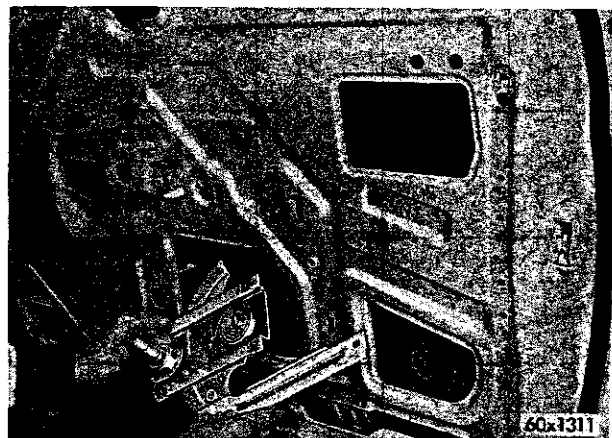
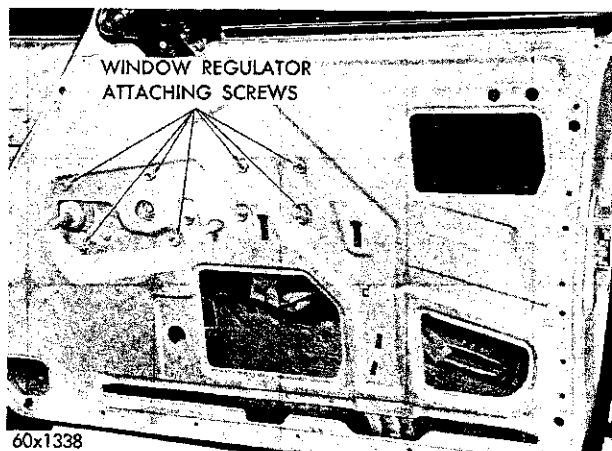
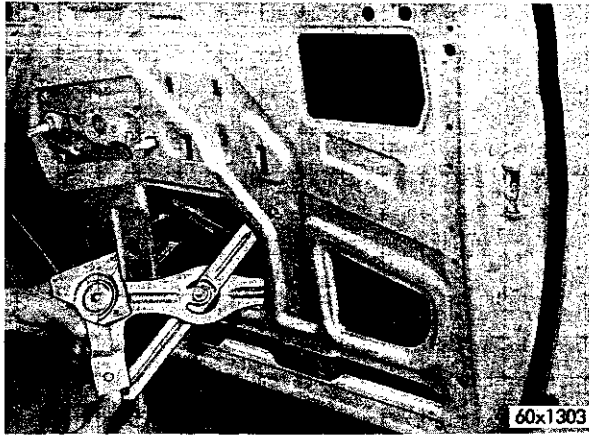

Fig. 56—Removing the Front Window Glass Manual Regulator
Fig. 55—Window Regulator Attaching Screws
Fig. 58—Removal of Glass Regulator Pivot Link
- (1) Remove the garnish moulding, arm rest and remote control handles.
- (2) Remove the trim panel and water shield.
- (3) Raise the door glass and remove glass from regulator.
- (4) Remove the regulator attaching screws (Fig. 55) and remove the regulator (Figs. 56 and 57) and pivot links (Fig. 58) through the door opening.
- (1) Install the pivot link and regulator assembly (Figs. 56 or 58).
- (2) After installing the regulator, turn the handle so the arm is in the raised position.
- (3) Engage the regulator arm in the door glass